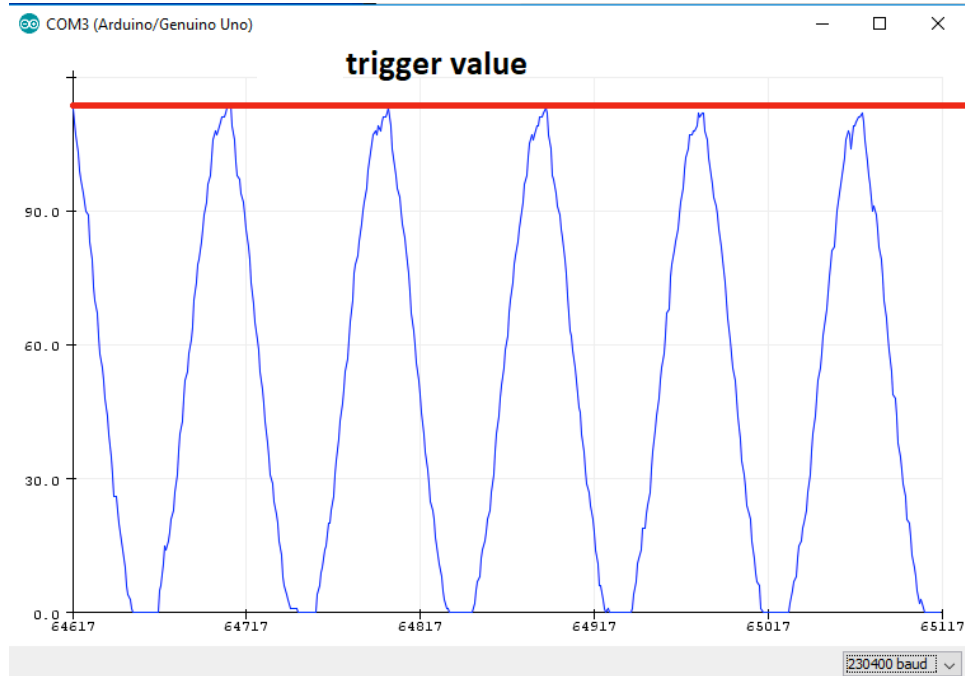

Figure 12 - Example of background noise.
- l. Inspect incoming signal from welder. Should be the background noise of the system. Visually estimate the peak value of the background noise (see Figure 12 below), and note this value down.